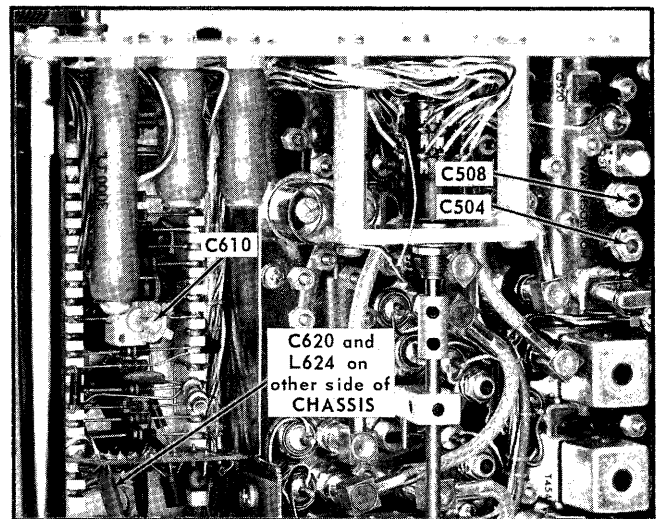

Fig. 6-7. Location of Resolution adjustments (Step 4).
d. See Fig. 6-7 for the location of the adjustments called out below.